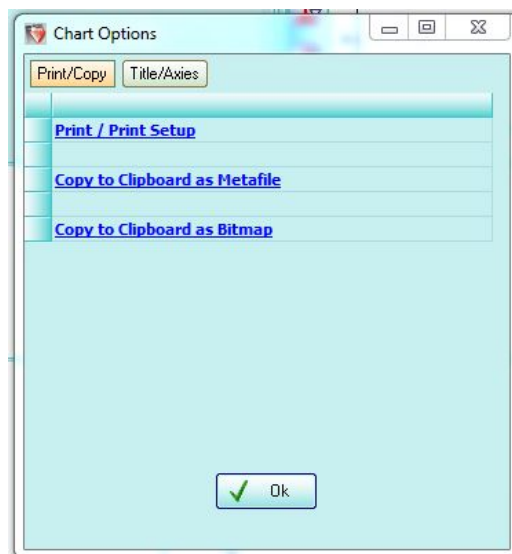

Figure 23. Print Setup Window
2. This brings up the 'Chart Options' Box. Select 'Print / Print Setup' (Figure 23)